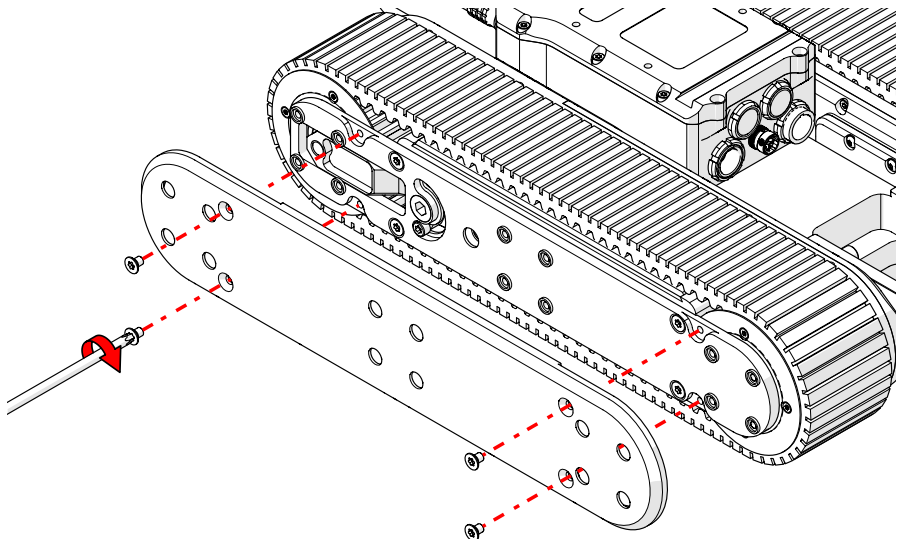

Fig. 63 - Tighten belt tension holding screw
4. Using a T20 driver, attach the outer cover of the track module with 4 screws (Fig. 63).